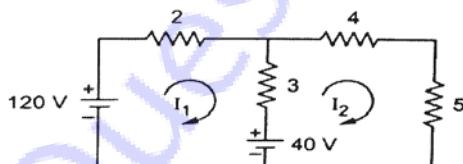

Figure 1
- i) State meaning of unilateral and bilateral network and find current through 5 ohm resistance by loop analysis method in Figure 1 (All resistances are in ohm)
- ii) State superposition theorem and find current through 5 ohm resistance by using this theorem in Figure 1.